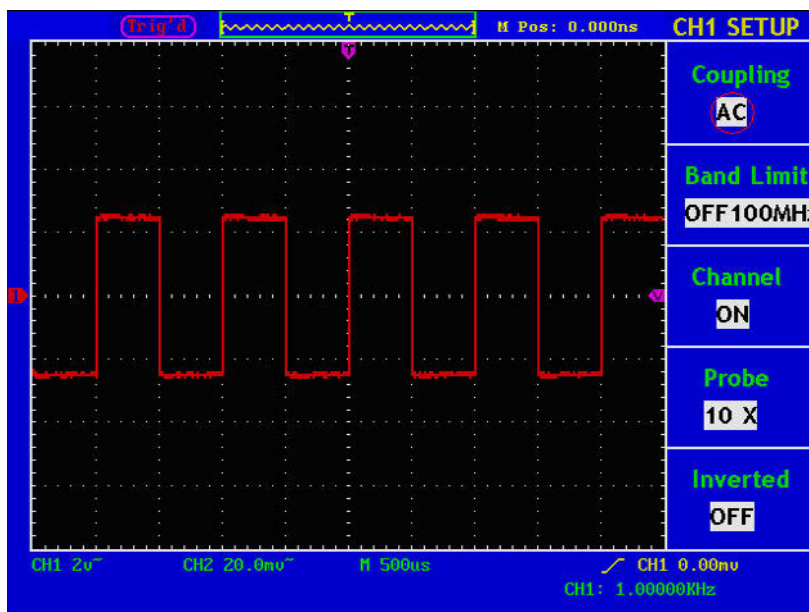
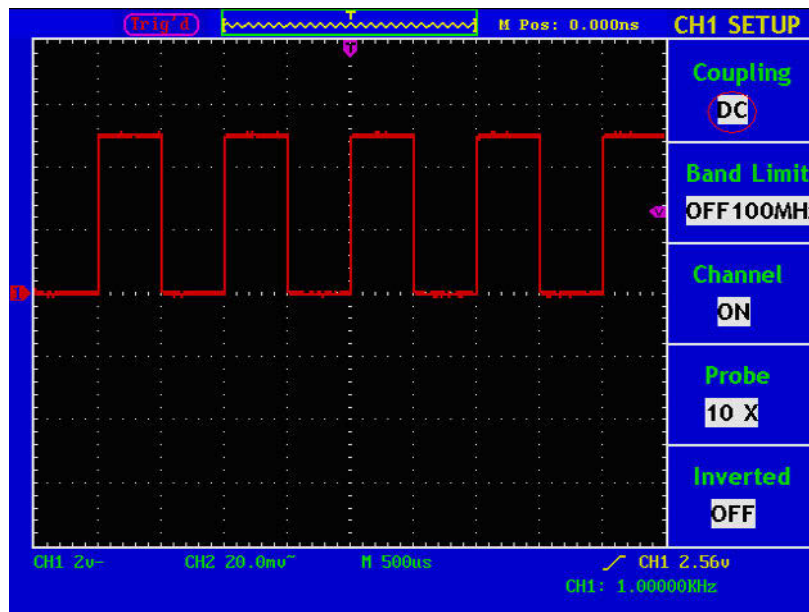

Figure 22. Channel Setting Menu.
Figure 23. Channel Setting Menu.
- Press **F1** next to Coupling and select "AC", now DC component is blocked from input signal. See Figure 22.
- Press **F1 again to set** "DC" mode, both AC and DC components get passed. See Figure 23.
The wave forms are shown as Figure 22. and Figure 23.